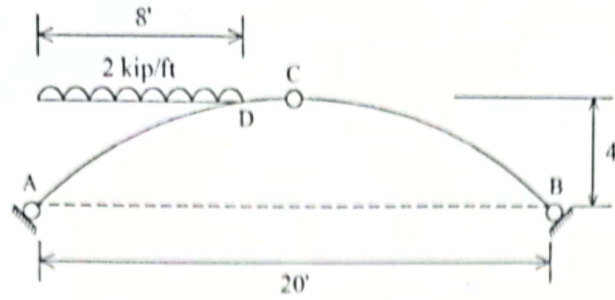

Fig. 3
3. a) Explain shortly why triangular shape is necessary for a structure to be a truss. (10)
- b) A parabolic three-pinned arch has a span of 20 ft and central rise of 4 ft. It is loaded with a uniformly distributed load of 2 kip/ft as shown in Fig. 3. Draw the BMD and find the position and magnitude of maximum BM over the arch. (30)